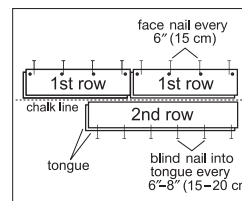

Figure 8
- Use a pneumatic finish nailer to face-nail the groove side 1/2" (13 mm) from the edge at 6" (15 cm) intervals and 1"-3" (2.5-7.6 cm) from each end. Then, blind nail using a finishing gun held at a 45° angle. Nail down through the nailing "pocket" on top of the tongue every 6"-8" (15-20 cm) (Figure 8).
- If using finish nails, pre-drill the nail holes with a 1/32" (2 mm) bit approximately 1/2" (13 mm) from back (groove) edge, 1"-3" (2.5-7.6 cm) from each end, and at 6" (15 cm) intervals. Pre-drill at the same intervals at a 45° angle down through the nailing "pocket" on top of the tongue (Figure 8). Face-nail the groove side where pre-drilled. When complete, blind-nail at a 45° angle through the tongue of the first row. Fasten using 6 or 8d finish nails. Countersink nails to ensure flush engagement of the groove. Avoid bruising the hardwood by using a nail set to countersink the nails.